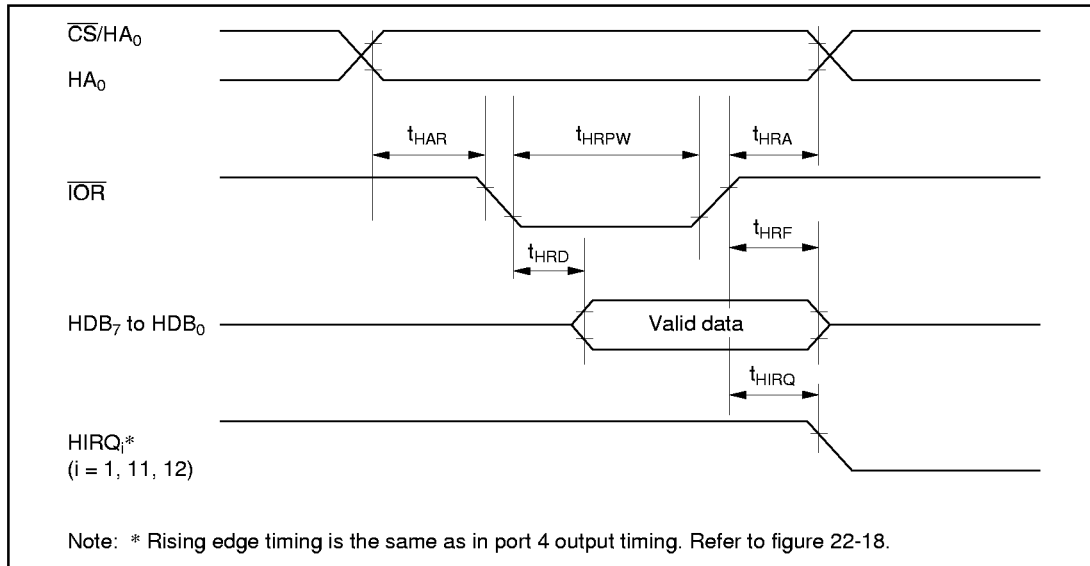

Figure 22-19 Host Interface Read Timing
22.3.8 Host Interface Timing	Figures 22-19 and 22-20